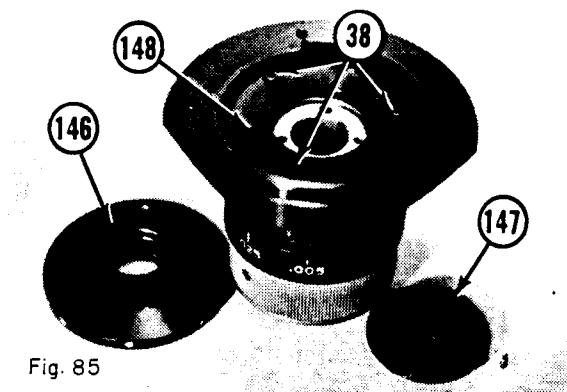

Fig. 85
2. With the two cap screws removed, you will be able to lift out the bias index plate (145). Under the bias index plate you will find the housing pulley (146) and the pulley flange (147) as shown in Fig. 85.